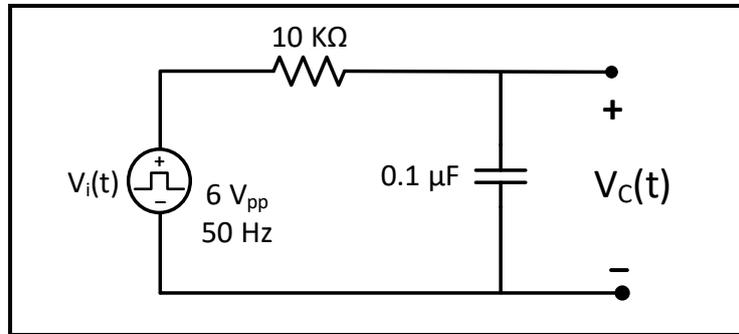

Figure 6.5
For the circuit of Figure 6.5:
1. Connect the circuit shown in Figure 6.5, with the function generator set to produce a square wave of: $V_{in} = 6 V_{pp}$, $f = 50 \text{ Hz}$, and DC offset 3 V.